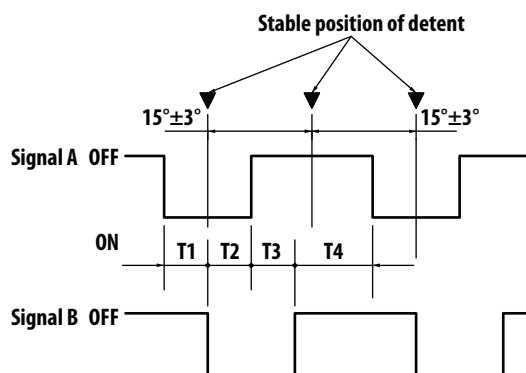

Figure 2. Z-Wheel Quadrature Signal Generation
The Z-Wheel reporting format which determines the vertical scroll resolution is Z/2. The following must be implemented when using with ADNS-7700. As shown in Figure 2 below, traveling along the quadrature signal to the right produces a unique set of state transitions, and traveling to the left produces another set of unique state transitions.
3. Connect the "A" terminal of the rotary switch to "ZA" and the "B" terminal to "ZB". ZA MUST be connected to "Signal A" in Figure 2 where the z-wheel detents are mechanically stable.